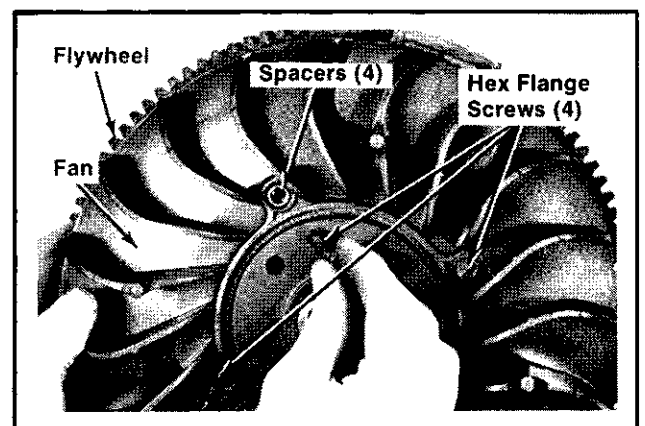

Figure 12B-28. Installing Fan To Flywheel.
1. Install the spacers, fan and hex flange screws. Torque screws to **115 in. lb.** Refer to Figure 12B-28.